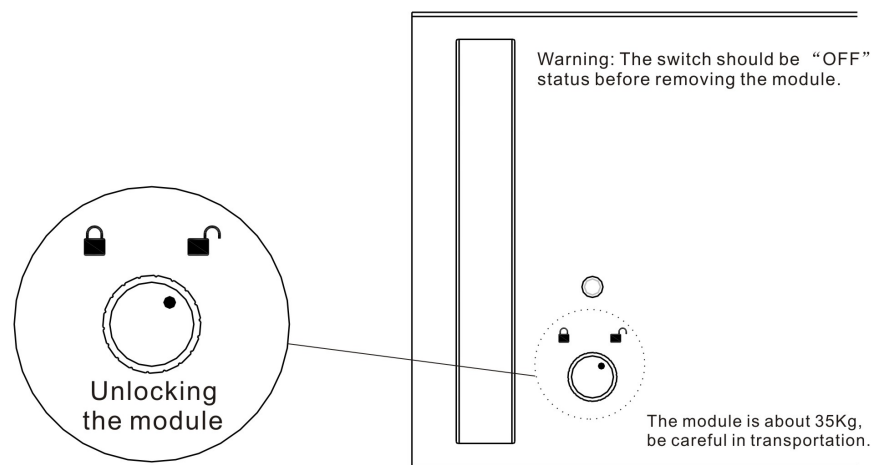

Fig 1-1
1. Set the input breaker of the UPS module to the OFF position (The breaker is behind the cabinet. You should open the rear door first.) and set the position lock located on the front panel of the module to “ ” (Fig.1-1) .